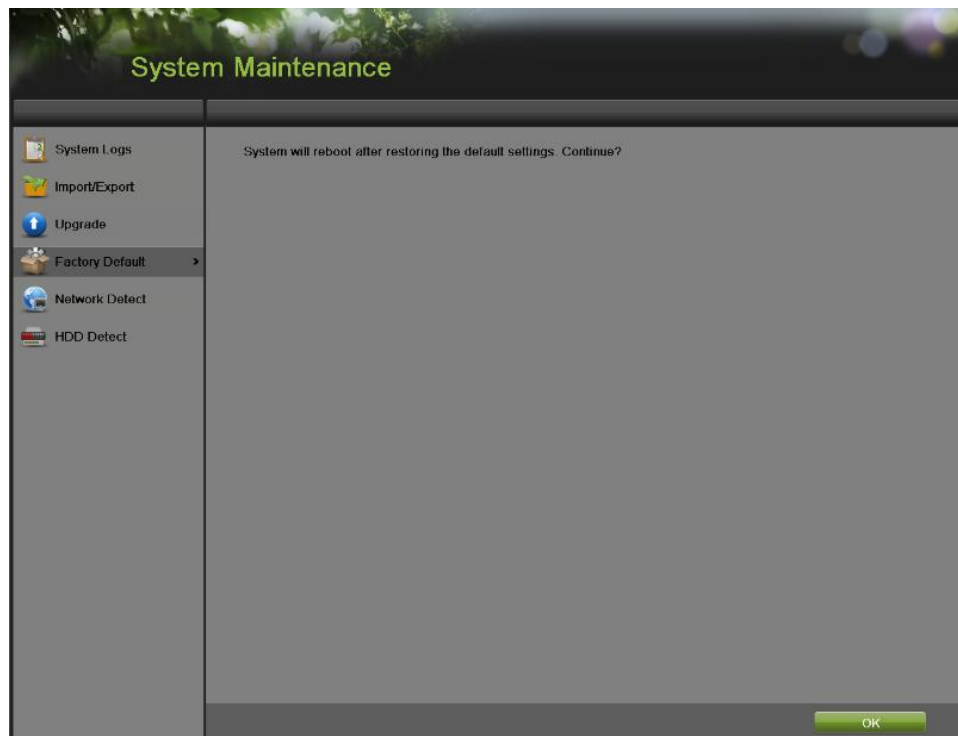

Figure 171 Factory Default Menu
1. Enter the Factory Default menu, shown in Figure 171 by going to Menu > Maintenance > Factory Default.